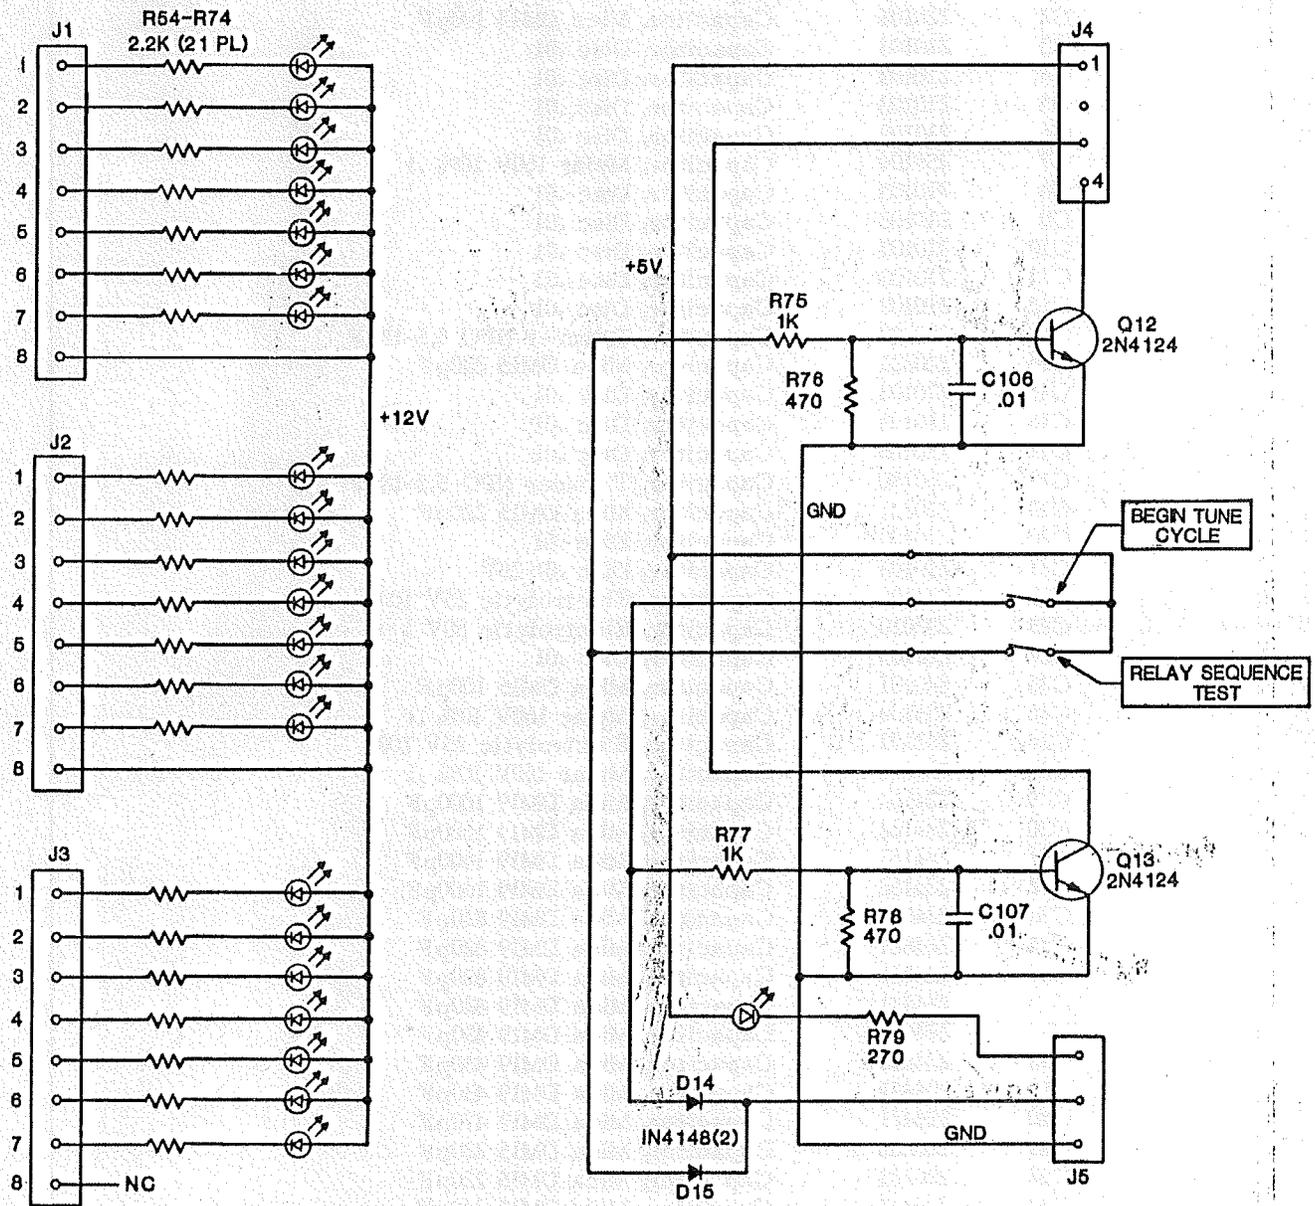

FIGURE 19. Automatic Antenna Tuner Test Panel.
3. Connect the scope to the PHASE test point (see Figure 19). Key the Transceiver. Adjust the PHASE potentiometer until the scope baseline is alternating between zero and +5 volts with about equal time in each position. This adjustment assures that the phase-amplifier output is swinging from zero to +5 volts output when RF energy is present.